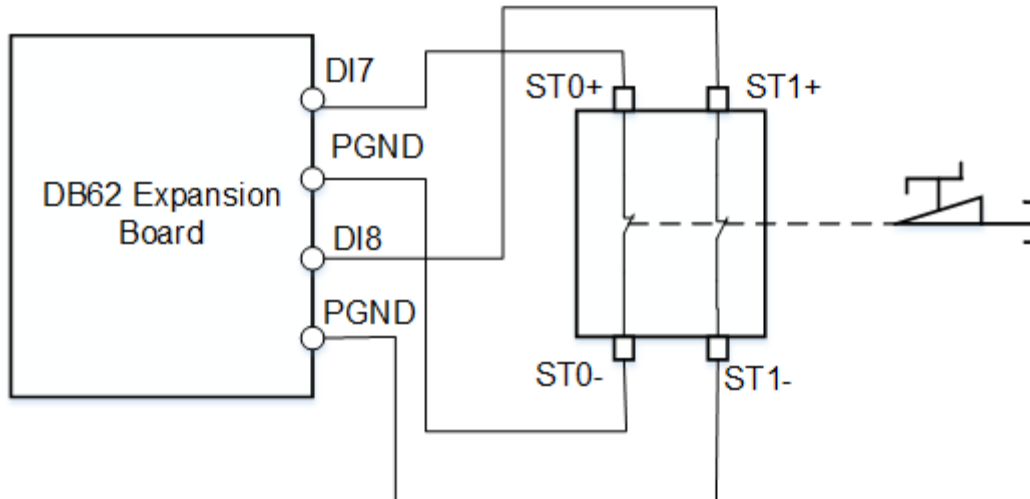

Figure 6.69 Connect DB62 expansion board to the door switch
Step 1 Connect the DB62 expansion board to the door switch, as shown in Figure 6.69.